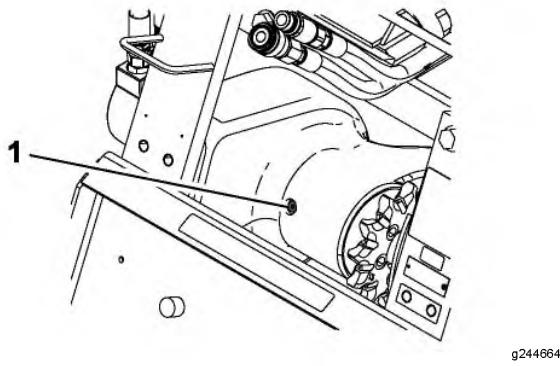

Figure 13
4. Clean the area around the fill-hole plug on the bearing case (Figure 13).
5. Remove the plug from the fill hole (Figure 13).
3. Clean the area around the fill-hole plug on the bearing case (Figure 13).
4. Remove the plug from the fill hole (Figure 13).